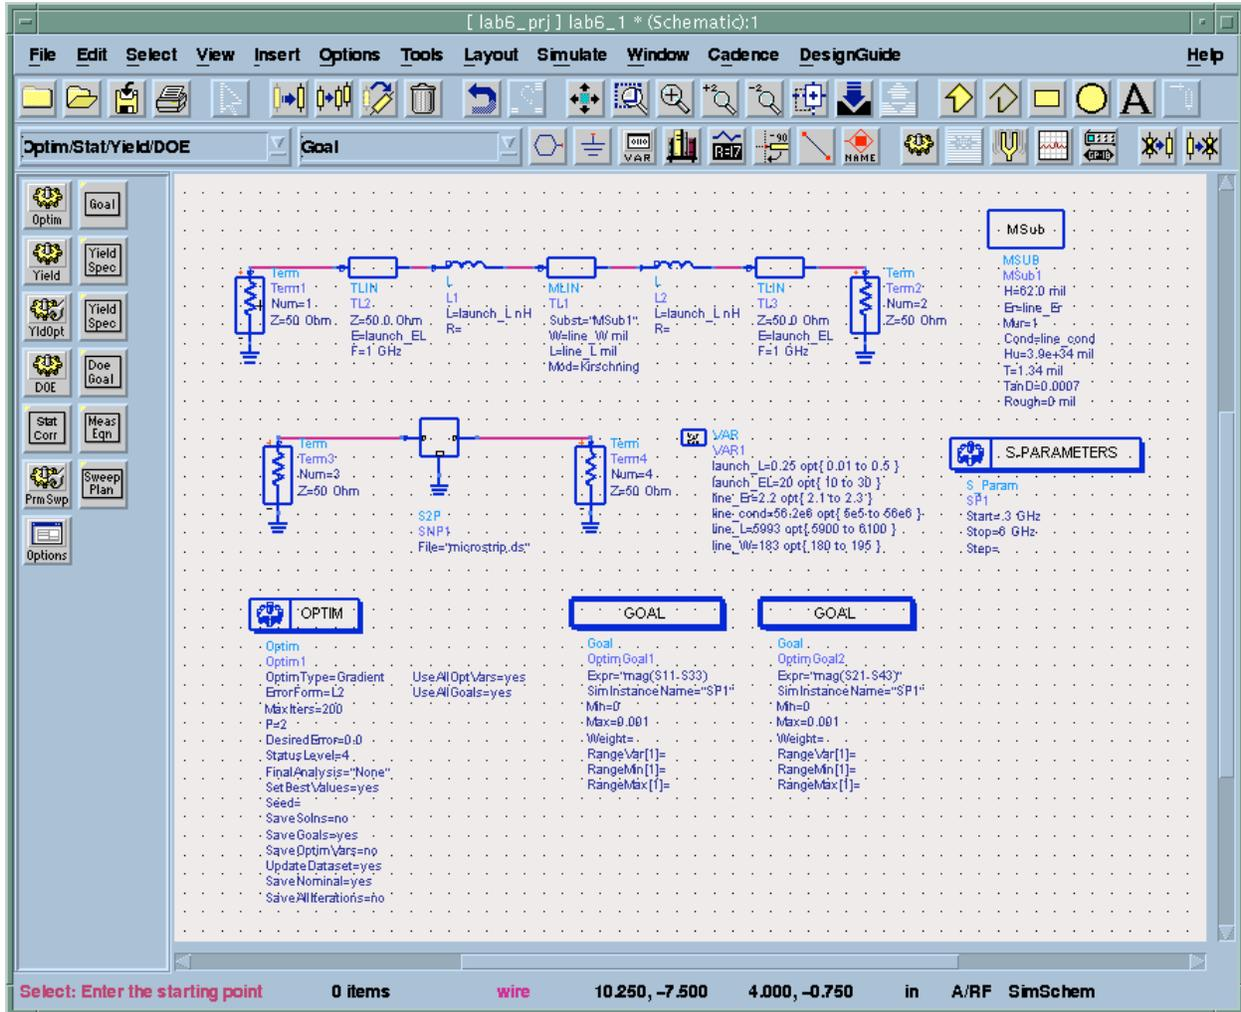

Figure 2. Schematic with optimization for microstrip line, including discontinuities and connector electrical length.
- g. Add an OPTIM element to the schematic to control the optimization process. Add the two goals to the OptGoal list, set the optimization type to gradient, and set the number of iterations to 100. Figure 2 depicts a schematic ready for optimization. To perform the optimization, run the simulation (using the “gear” icon). The simulation window will monitor the progress of the optimization (it may take a few minutes). The “CurrentEF” variable gives a relative measure of how well the goal expressions are being achieved; if all goes well this number should drop as the optimization proceeds. The final values that the optimization process found are printed in the simulation window at the end of the optimization. Check these values over to make sure they appear to be reasonable values. If they are, under the Simulate menu select “Update Optimization Values.” This will put the values found in the optimization into the schematic automatically. To verify that the optimization worked, disable the OPTIM element (select it and then click on the “X-out” icon), and run the simulation again.